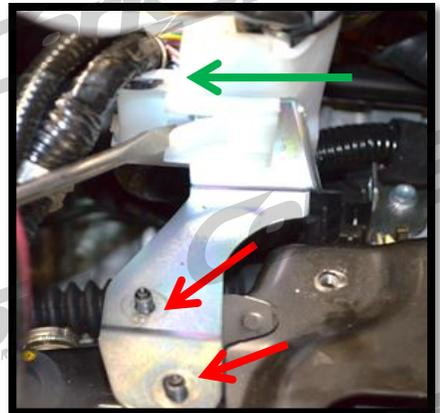

Figure 2a
- a) Remove the ECU wiring harness bracket. (Figure 2a)
- a) **Remove the ECU wiring harness bracket.** Use a flat head screwdriver to pry the locking tab up, and pull the harness towards the front of the car. (Green Arrow in Figure 2a) Then remove the two 10mm nuts holding the bracket and remove it. Nuts shown removed. (Red Arrows in Figure 2a)